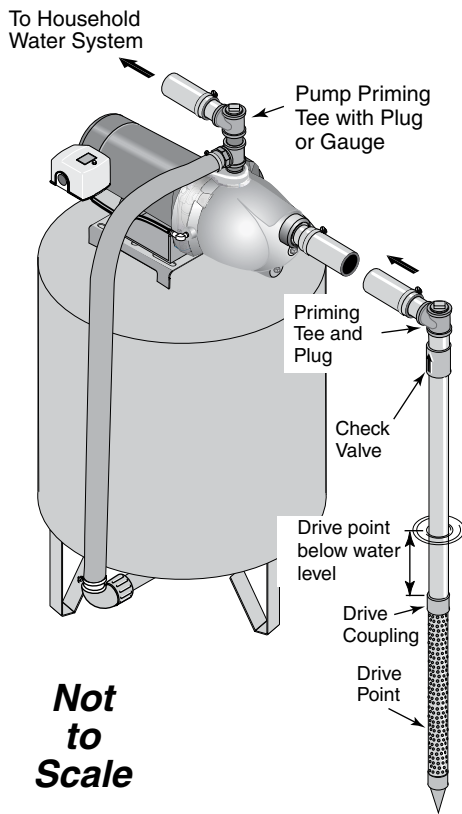

Figure 1: Driven Point Installation
WELL POINT (DRIVEN POINT) INSTALLATION (Figure 1)
Step 3. Use the fewest possible fittings (especially elbows) when connecting the pipe from the well point to the pump suction port. The suction pipe should be at least as large as the suction port on the pump (include a check valve if your pump is not equipped with one – see Figure 1). Support the pipe so that there are no dips or sags in the pipe, so it doesn’t strain the pump body, and so that it slopes slightly upward from the well to the pump (high spots can cause air pockets which can air lock the pump). Seal the suction pipe joints with PTFE pipe thread sealant tape. Joints must be air- and water-tight. *If the suction pipe can suck air, the pump cannot pull water from the well.* If one well point does not supply enough water, consider connecting two or three well points to one suction pipe.